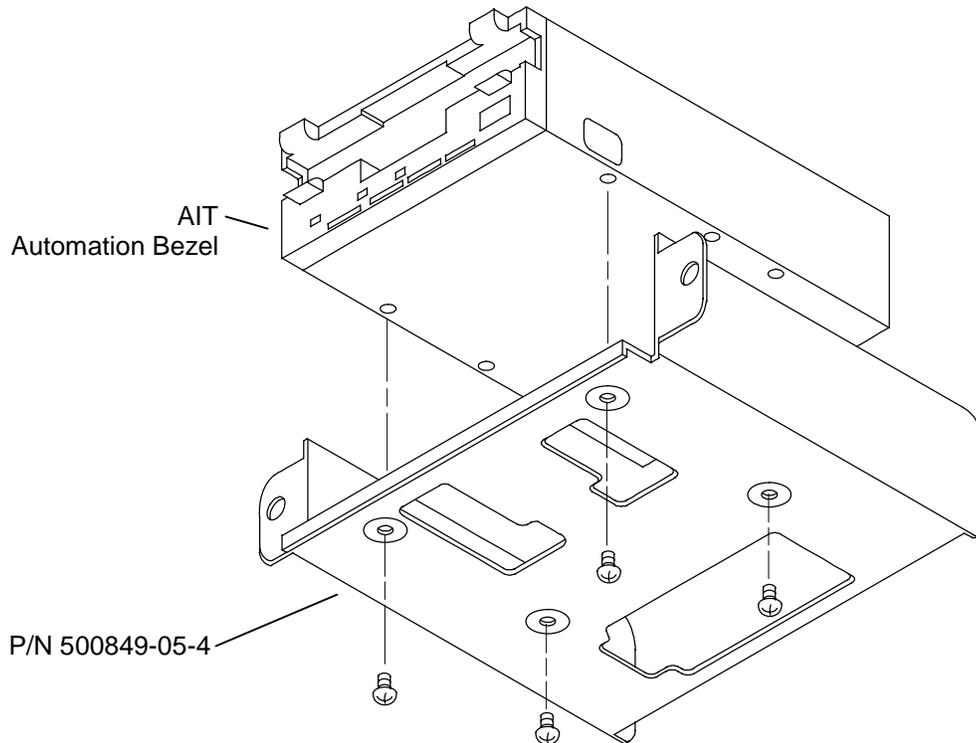
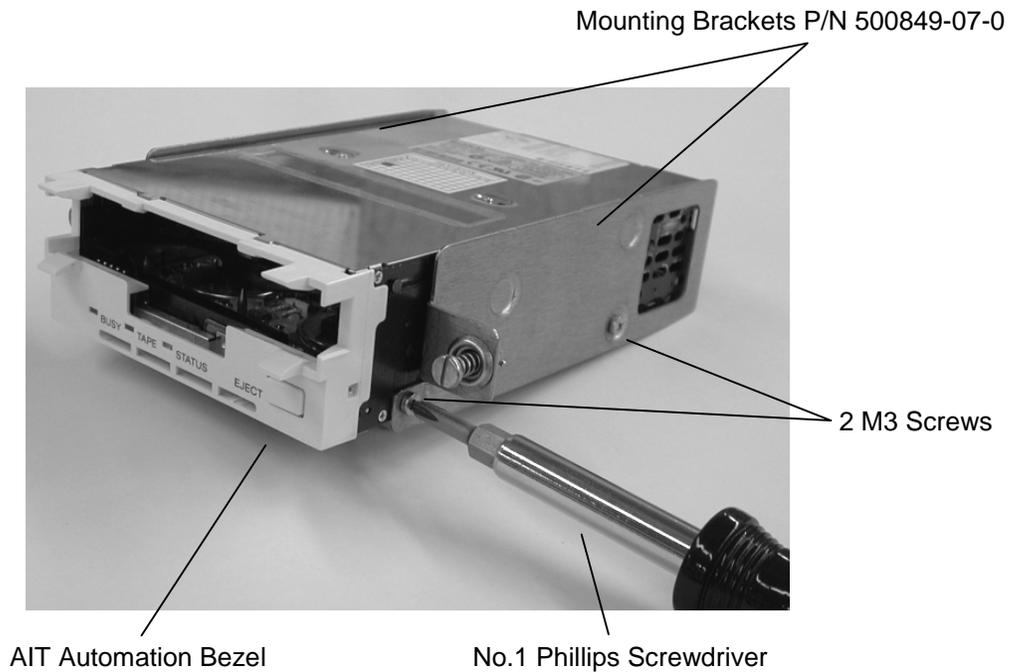

Figure 3-4 Bottom View of AIT Series Mounting Tray (not for TLS-4212/4222)
Figure 3-5 View of AIT Series Mounting Brackets (for TLS-4212/4222 only)
AIT tape drives come in two basic types: Desktop and Library. Only library ready drives may be used in any TLS. AIT library ready drives are identified with an “L” at the end of the model number. Check the barcode label on the rear of the drive to determine it’s model number. Figure 3-4 and Figure 3-5 depict the library required Automation Bezel.
2. For 5.25 inch drive bay installation refer to Figure 3-4 and mount the drive to the mounting tray using the four M3 screws and a No. 1 Phillips screwdriver. Do not over-tighten.
3. For 3.50 inch drive bay installation refer to Figure 3-5 and attach a mounting bracket to each side of the drive using the four M3 screws and a No. 1 Phillips screwdriver. Do not over-tighten.
AIT tape drives are produced in two versions: automation-specific and stand-alone. Only automation-specific tape drives can be used in the TLS-4000 Series libraries. The front bezel of the automation-specific tape drives is shown in Figure 3-4 and Figure 3-5.